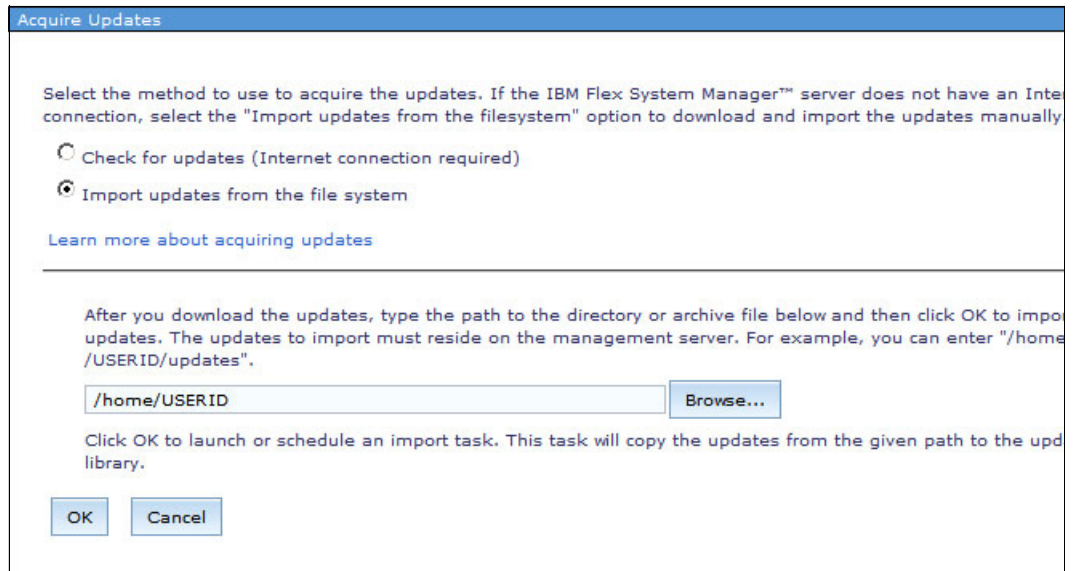

Figure 6-100 Acquire Updates window
3. In the Acquire Updates window (see Figure 6-100), select the method of acquiring updates and click **OK** to start the Acquire Updates job.